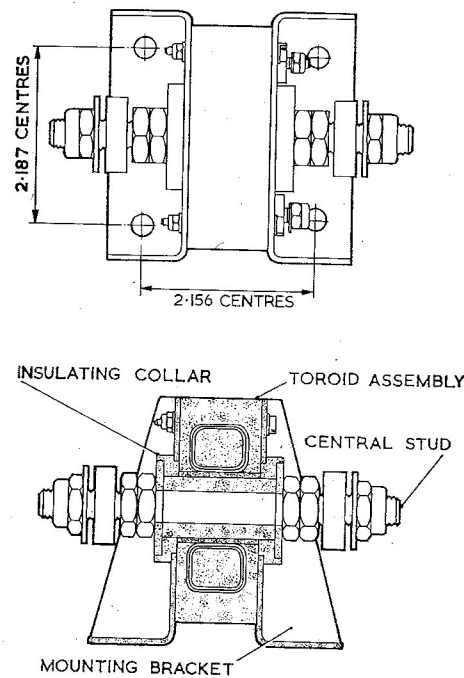

Fig. 1. Transient detector current transformer, Rotax, Type ZA14102
2. The transient detector current transformer (fig. 1) consists of a toroidal coil assembly mounted between two support brackets. The central stud which passes through the toroidal coil and acts as the primary, is clamped to the toroid assembly by four locknuts. The central stud is threaded at both ends (0.375 UNF), to accommodate 280 A connector lugs which are secured to the central stud by plain washers and stiffnuts. Two fixing screws pass through the support brackets and the toroid assembly, securing the transformer components.